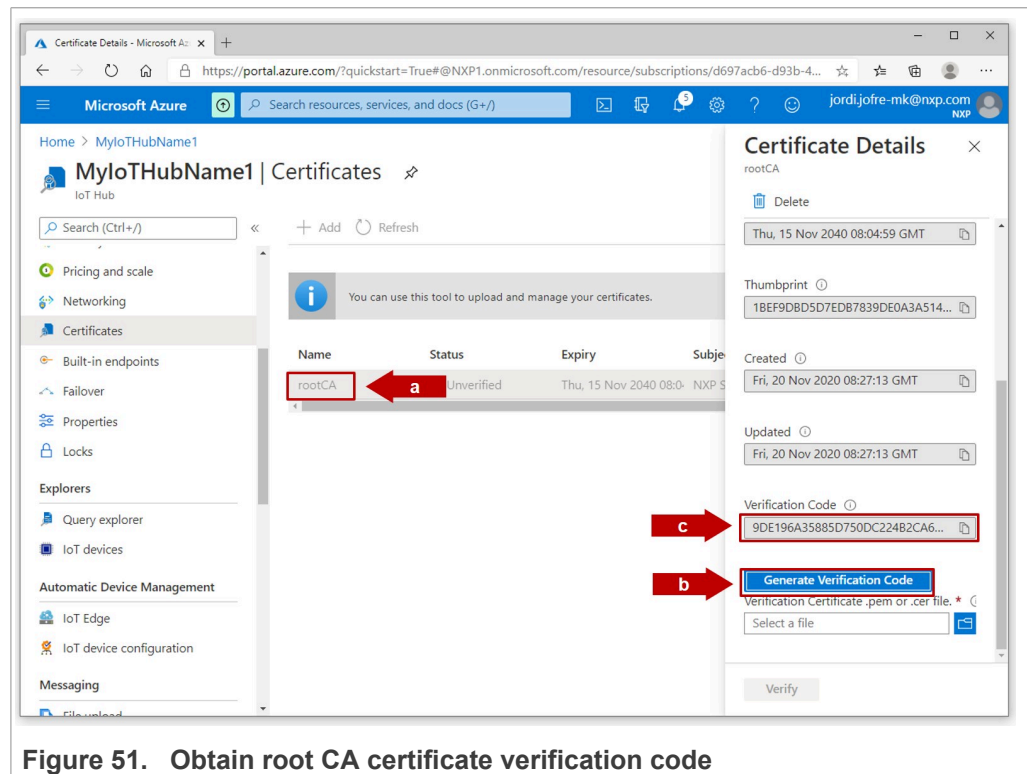

Figure 51. Obtain root CA certificate verification code
3. To obtain the verification code, do as shown in Figure 51